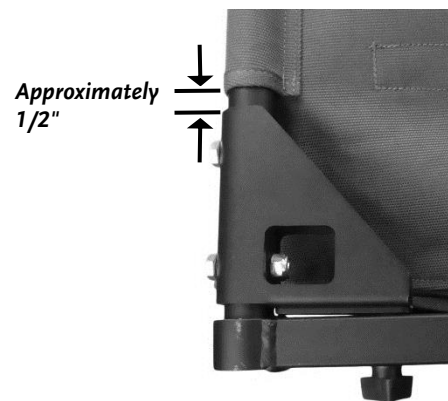

Figure 39
18. Adjust the enclosure corner loops so that there is about 1/2" of tube showing above the tube brackets (**Figure 39**).